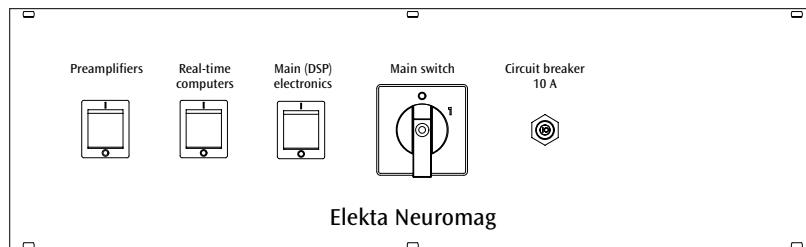

Figure 6.2. The mains control panel of the main electronics cabinet.
2. On the mains control panel of the main electronics cabinet (see Fig. 6.2), ensure that the green rocker switches (Preamplifiers, real-time computers, main electronics) are in “off” position.